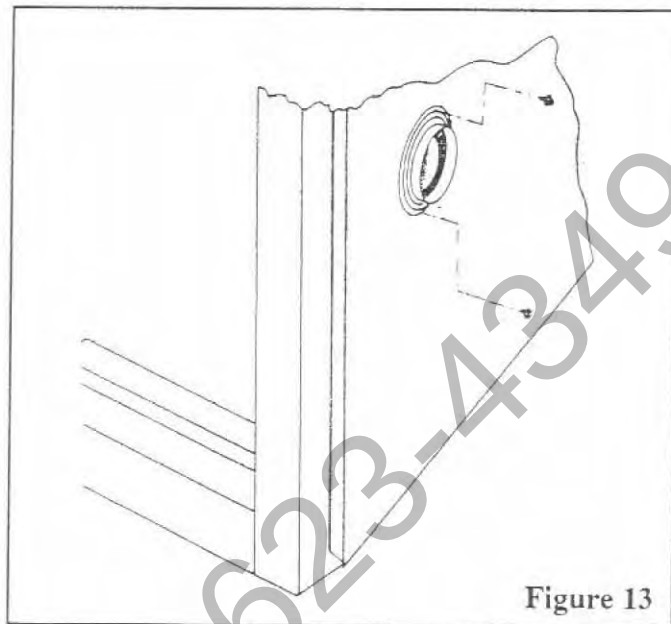

Figure 13
STEP 6: Four screw holes are provided in the air gate assembly and case body to secure the assembly. At this point, install only two screws at opposite sides of the flange as shown in Figure 13.